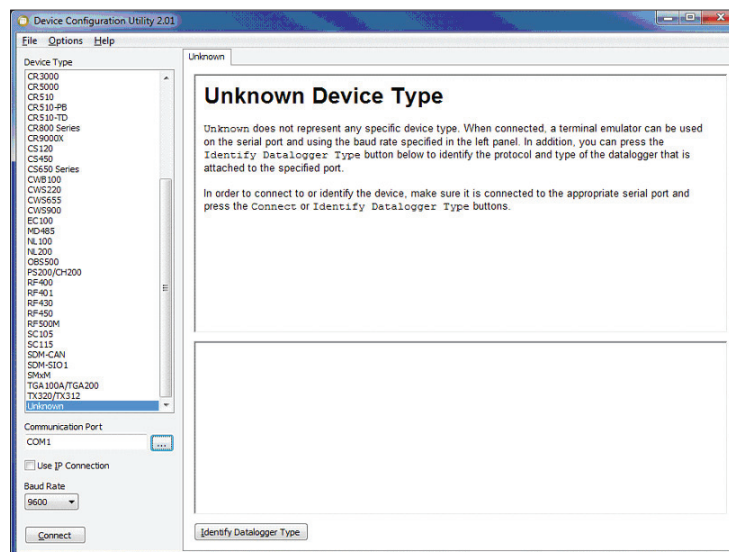

Figure 2. The Device Configuration screen when Unknown is selected for the Device Type. This screen assumes the WiBox is connected to COM1.
2. Open the Device Configuration utility in LoggerNet and select "Unknown" from the device type list (see Figure 2).
3. Set the baud rate to 9600, ensure that the correct COM port is designated, and click Connect (see Figure 2).